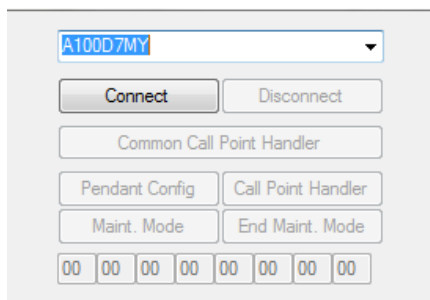

Figure 5 Connecting the device
1. In the Configuration Utility software, select the device in the drop down menu, as shown in Figure 5.